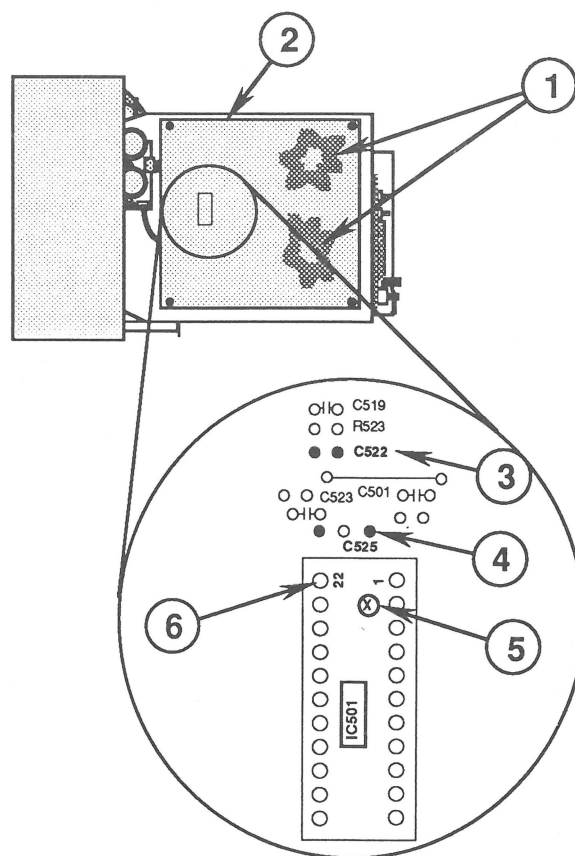
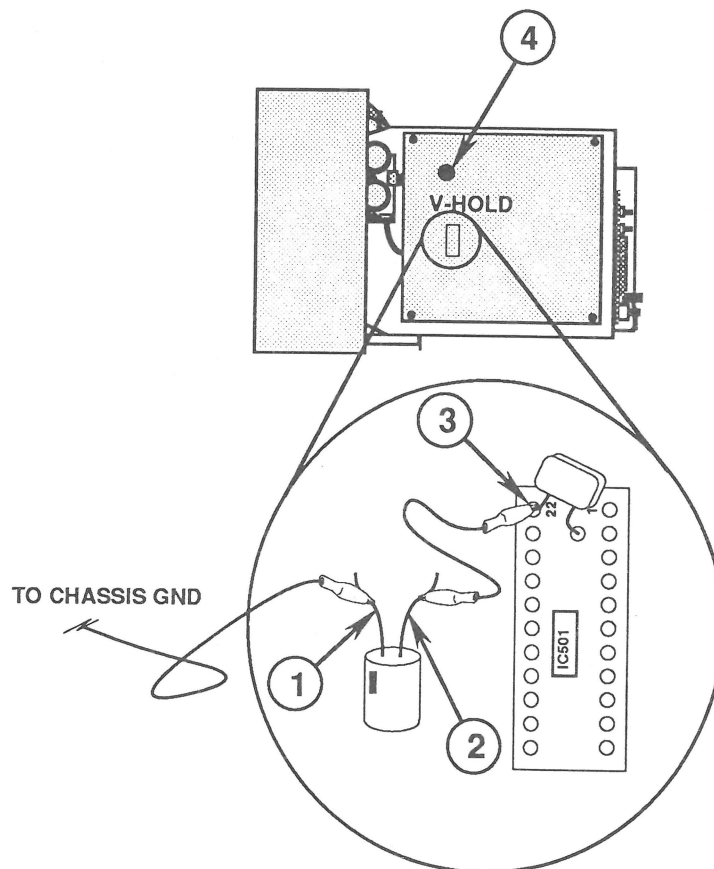

FIGURE 18
FIGURE 19
WARNING: *In addition to following the standard safety precautions outlined in Section 1, Basics, take care to avoid the high voltage area (Figure 18, #1) of main logic board "D."*
Note: If capacitor C525 (Figure 18, #4) is not already installed on the "D" board, you will not find a label or terminal holes for it on the board.
3. Check the "D" board (Figure 18, #2) for capacitors C522 (Figure 18, #3) and C525 (Figure 18, #4).
- b) If capacitor C522 (Figure 18, #3) is missing, do step 4 next.
- c) If capacitor C525 (Figure 18, #4) is missing, do step 5 next.
4. Using the low wattage soldering iron and needlenose pliers, solder capacitor C522 (**0.022 μ F**) to the two holes marked C522 (Figure 18, #3) on the "D" board. Then perform the Vertical Alignment procedure.
- a) Use a small knife to scrape away a small section of insulating material at point X (Figure 18, #5) on the solder side of the "D" board.
- c) Using the needlenose pliers and soldering iron, solder capacitor C525 between IC501 pin 22 (Figure 18, #6) and point X. (For best results, lay capacitor C525 on its side and solder it to pin 22 and point X as shown in Figure 19. Be careful not to short the capacitor leads to any other solder connections.)
1. Connect an alligator lead between the negative end of the 330 μ f capacitor (Figure 19, #1) and the monitor chassis (ground).
2. Connect a second alligator lead between the positive (unmarked) end of the 330 μ f capacitor (Figure 19, #2) and pin 22 on IC501 (Figure 19, #3).
4. Using the 8-inch (or longer) insulated screwdriver from inside the monitor, turn the VERTICAL HOLD (V.HOLD) control (Figure 19, #4) until 4 or 5 horizontal gray bars appear on the monitor screen.